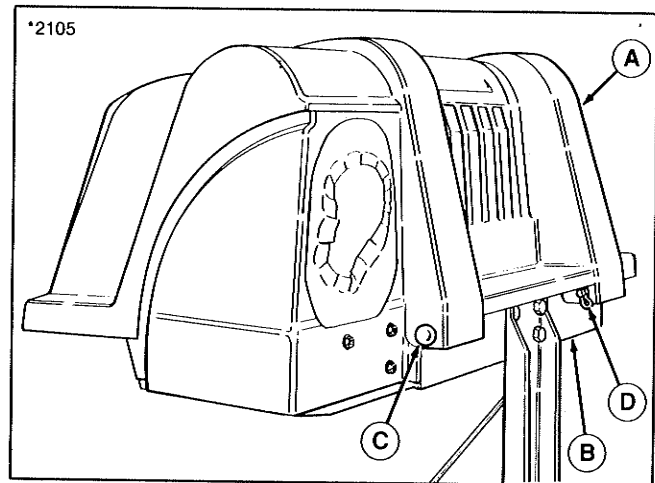

Figure 18.
26. Reinstall grass catcher cover (A, figure 18) to support (B) and secure with clevis pins (C) and clips (D).